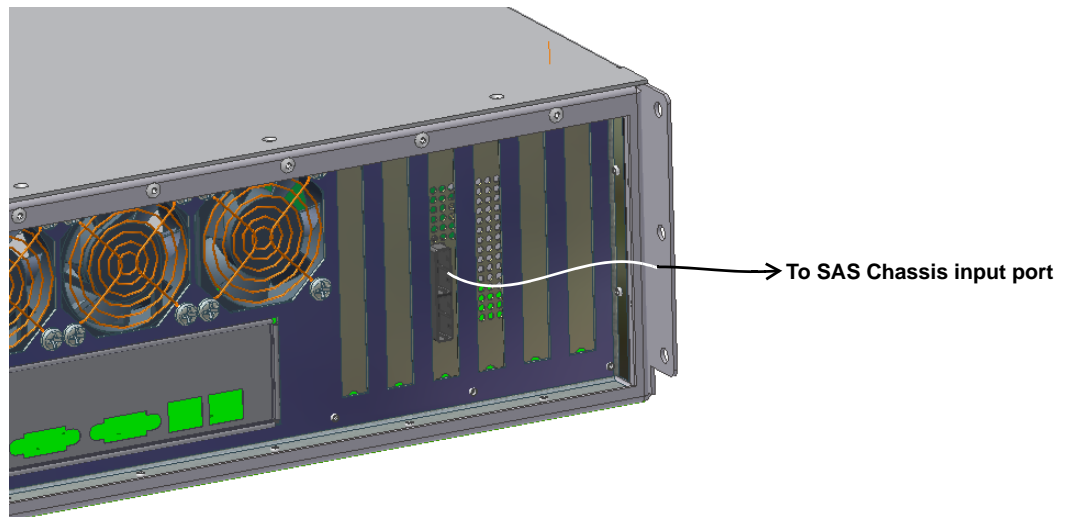

Figure 3-18 Connect DSL100 to SAS System
2. Connect one end of the provided SAS cable to the upper SAS port on the DSL100's rear panel, then connect the other end to the SAS unit's input port, as shown in Figure 3-18.